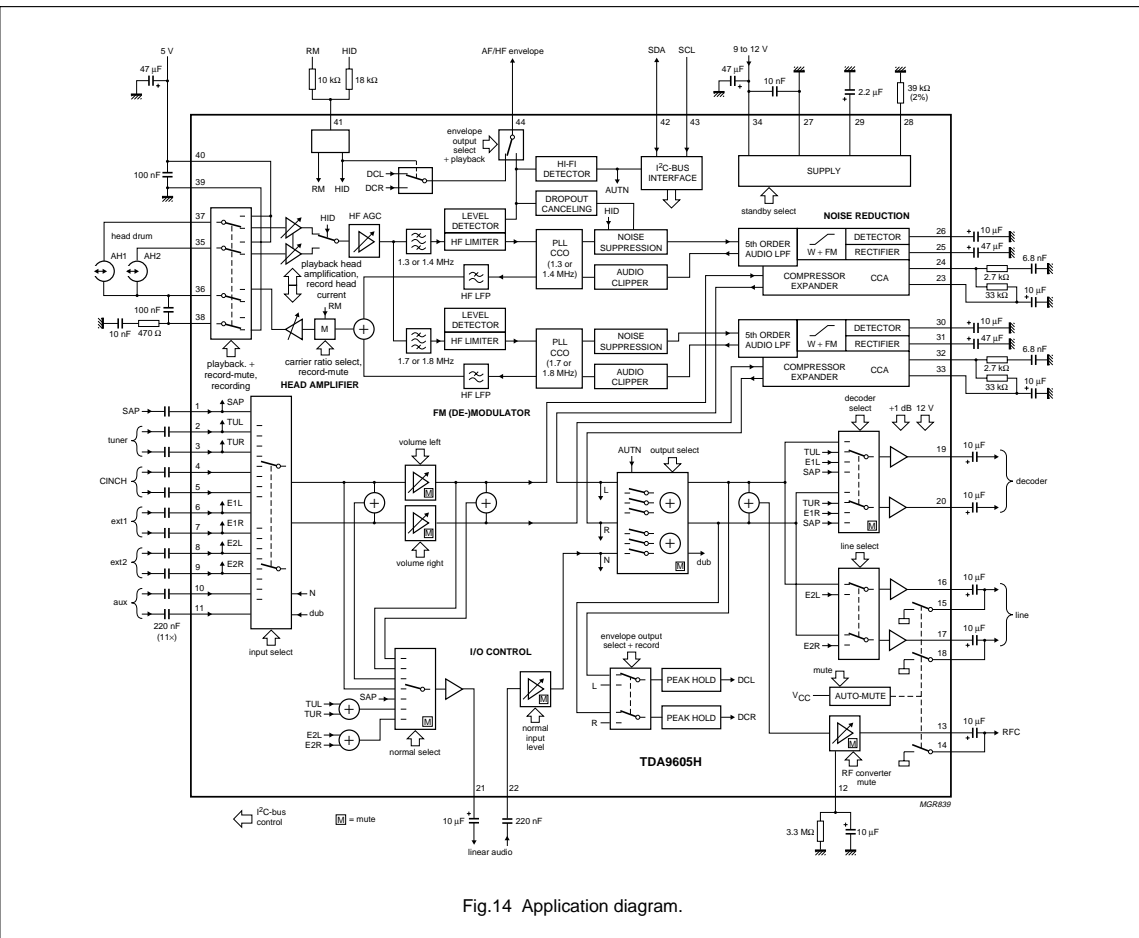

Fig. 14 Application diagram.
**13 PLAYBACK MODE CHARACTERISTICS** $V_{CC} = 12\text{ V}$ ;  $T_{amb} = 25\text{ °C}$ ; measured in typical application circuit of Fig.14; unless otherwise specified.